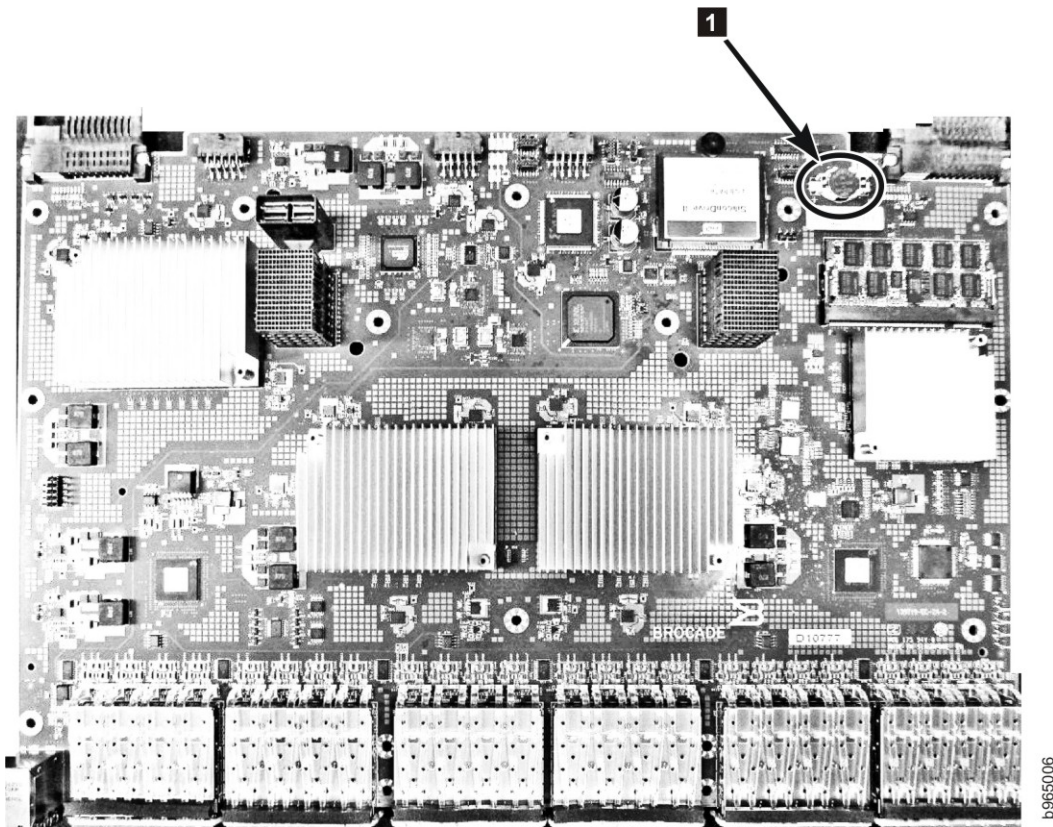

Figure 82. Location of battery holder
5. On the main circuit board, go to location **1** shown in Figure 82 and remove the BR1225 battery from the holder.